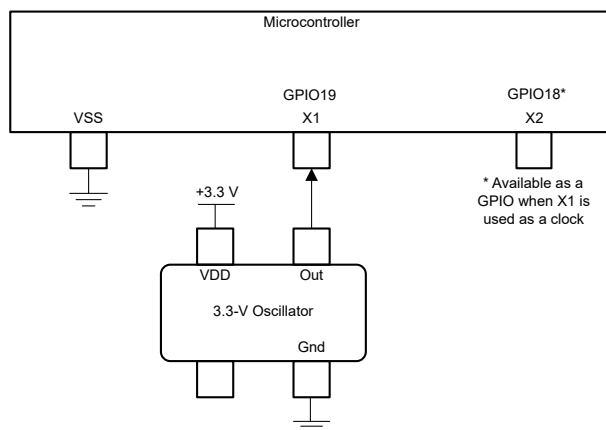

Figure 6-12. Single-ended 3.3-V External Clock
- A single-ended 3.3-V external clock. The clock signal should be connected to X1, as shown in Figure 6-12, with the XTALCR.SE bit set to 1.